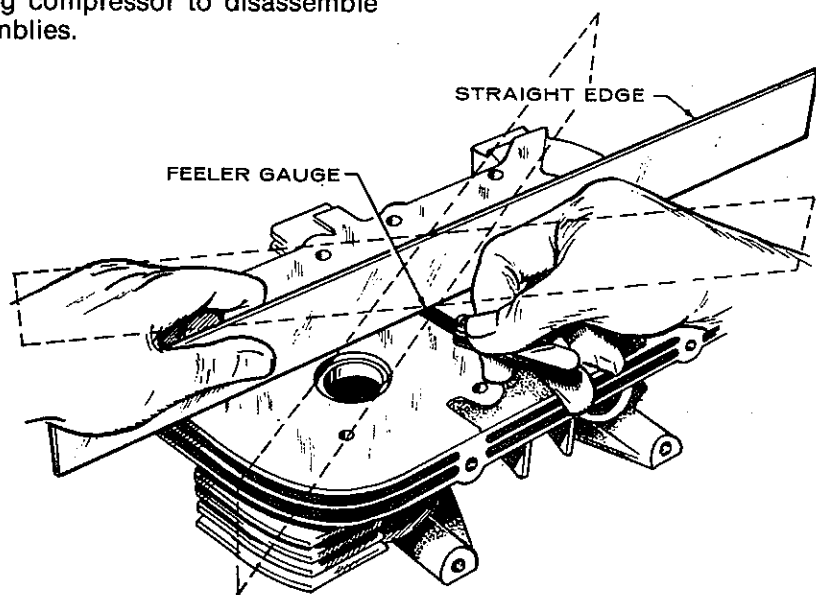

FIGURE 15-5. CHECKING CYLINDER HEAD FLATNESS
5. With a straight edge and thickness gauge, check the flatness of the cylinder head, Figure 15-5. The